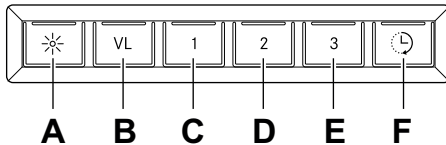

Fig. 1
- To open programming: press and hold down buttons A and B for 3 seconds so that they both flash 3 times, see Fig. 1. Programming mode will then be active for 30 seconds.
- To save programming: press and hold down buttons A and B for 3 seconds, see Fig. 1. Buttons A and B will flash twice to show that the programme has been saved.